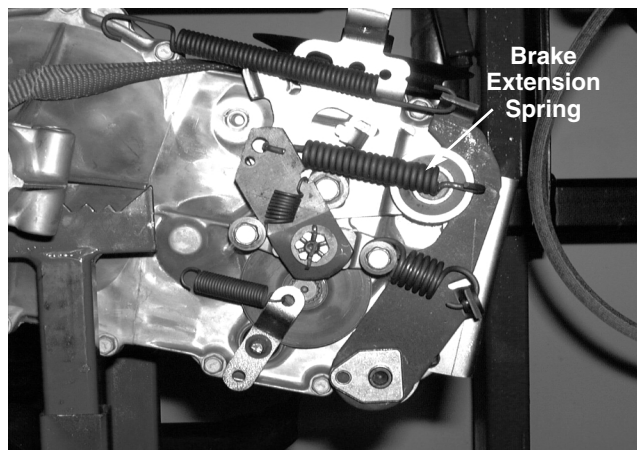

FIGURE 12.
19. Remove the brake extension spring from the brake rod using a pair of vice grips. See figure 12.